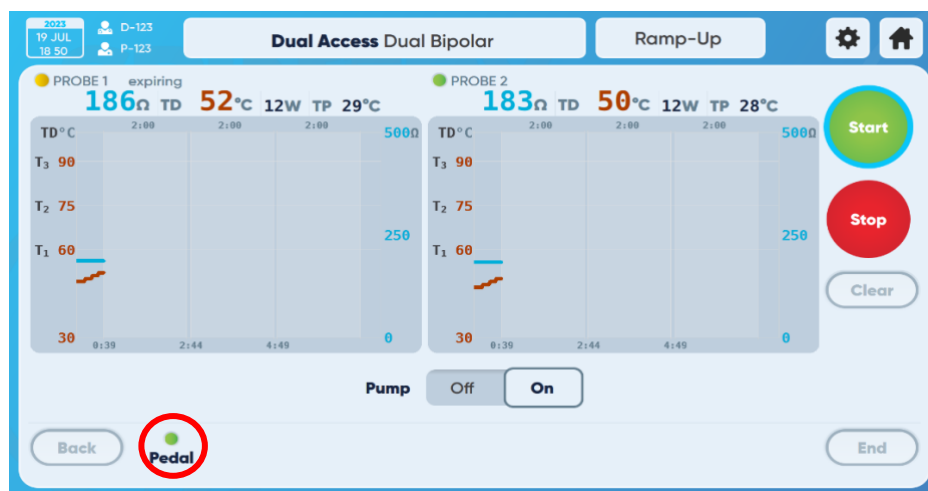

Figure 25 – Pedal symbol on generator screen
3. In case you selected the foot pedal or Touch + foot pedal, connect the foot pedal connector to the rear panel port of the generator (Figure 25). If the control pedal is selected, a green LED ensures the connection, while the red LED indicates that it is not connected.